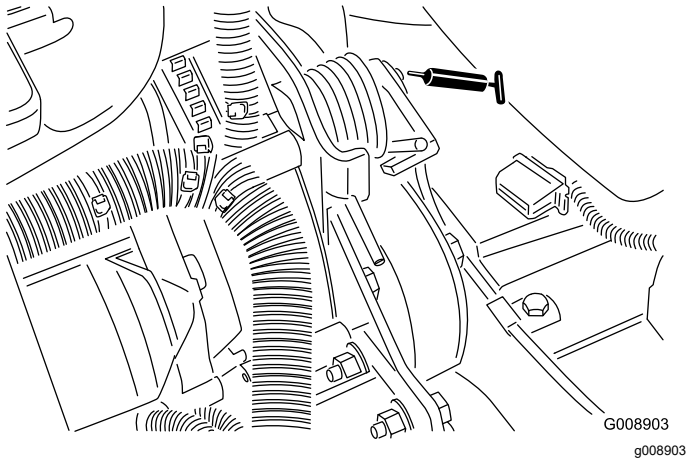

Figure 60
- Belt tension pivot (Figure 60)